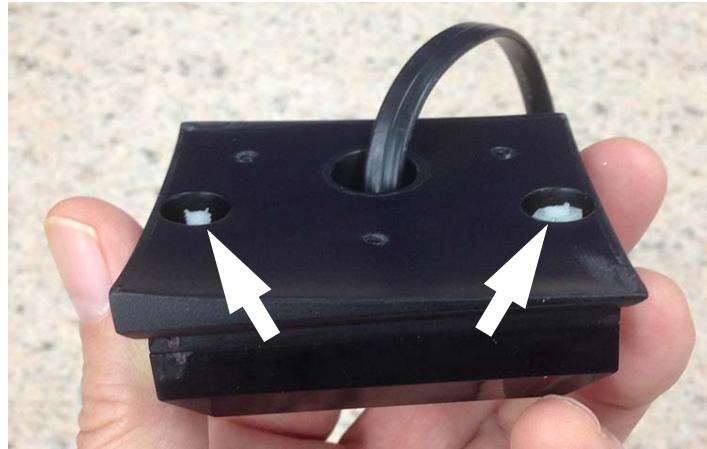

Figure 2-14 Trim standoffs
13. Use a pair of cutters to remove the excessive length of the standoffs so that they are flush with the surface of the Receiver Mount. See Figure 2-14.